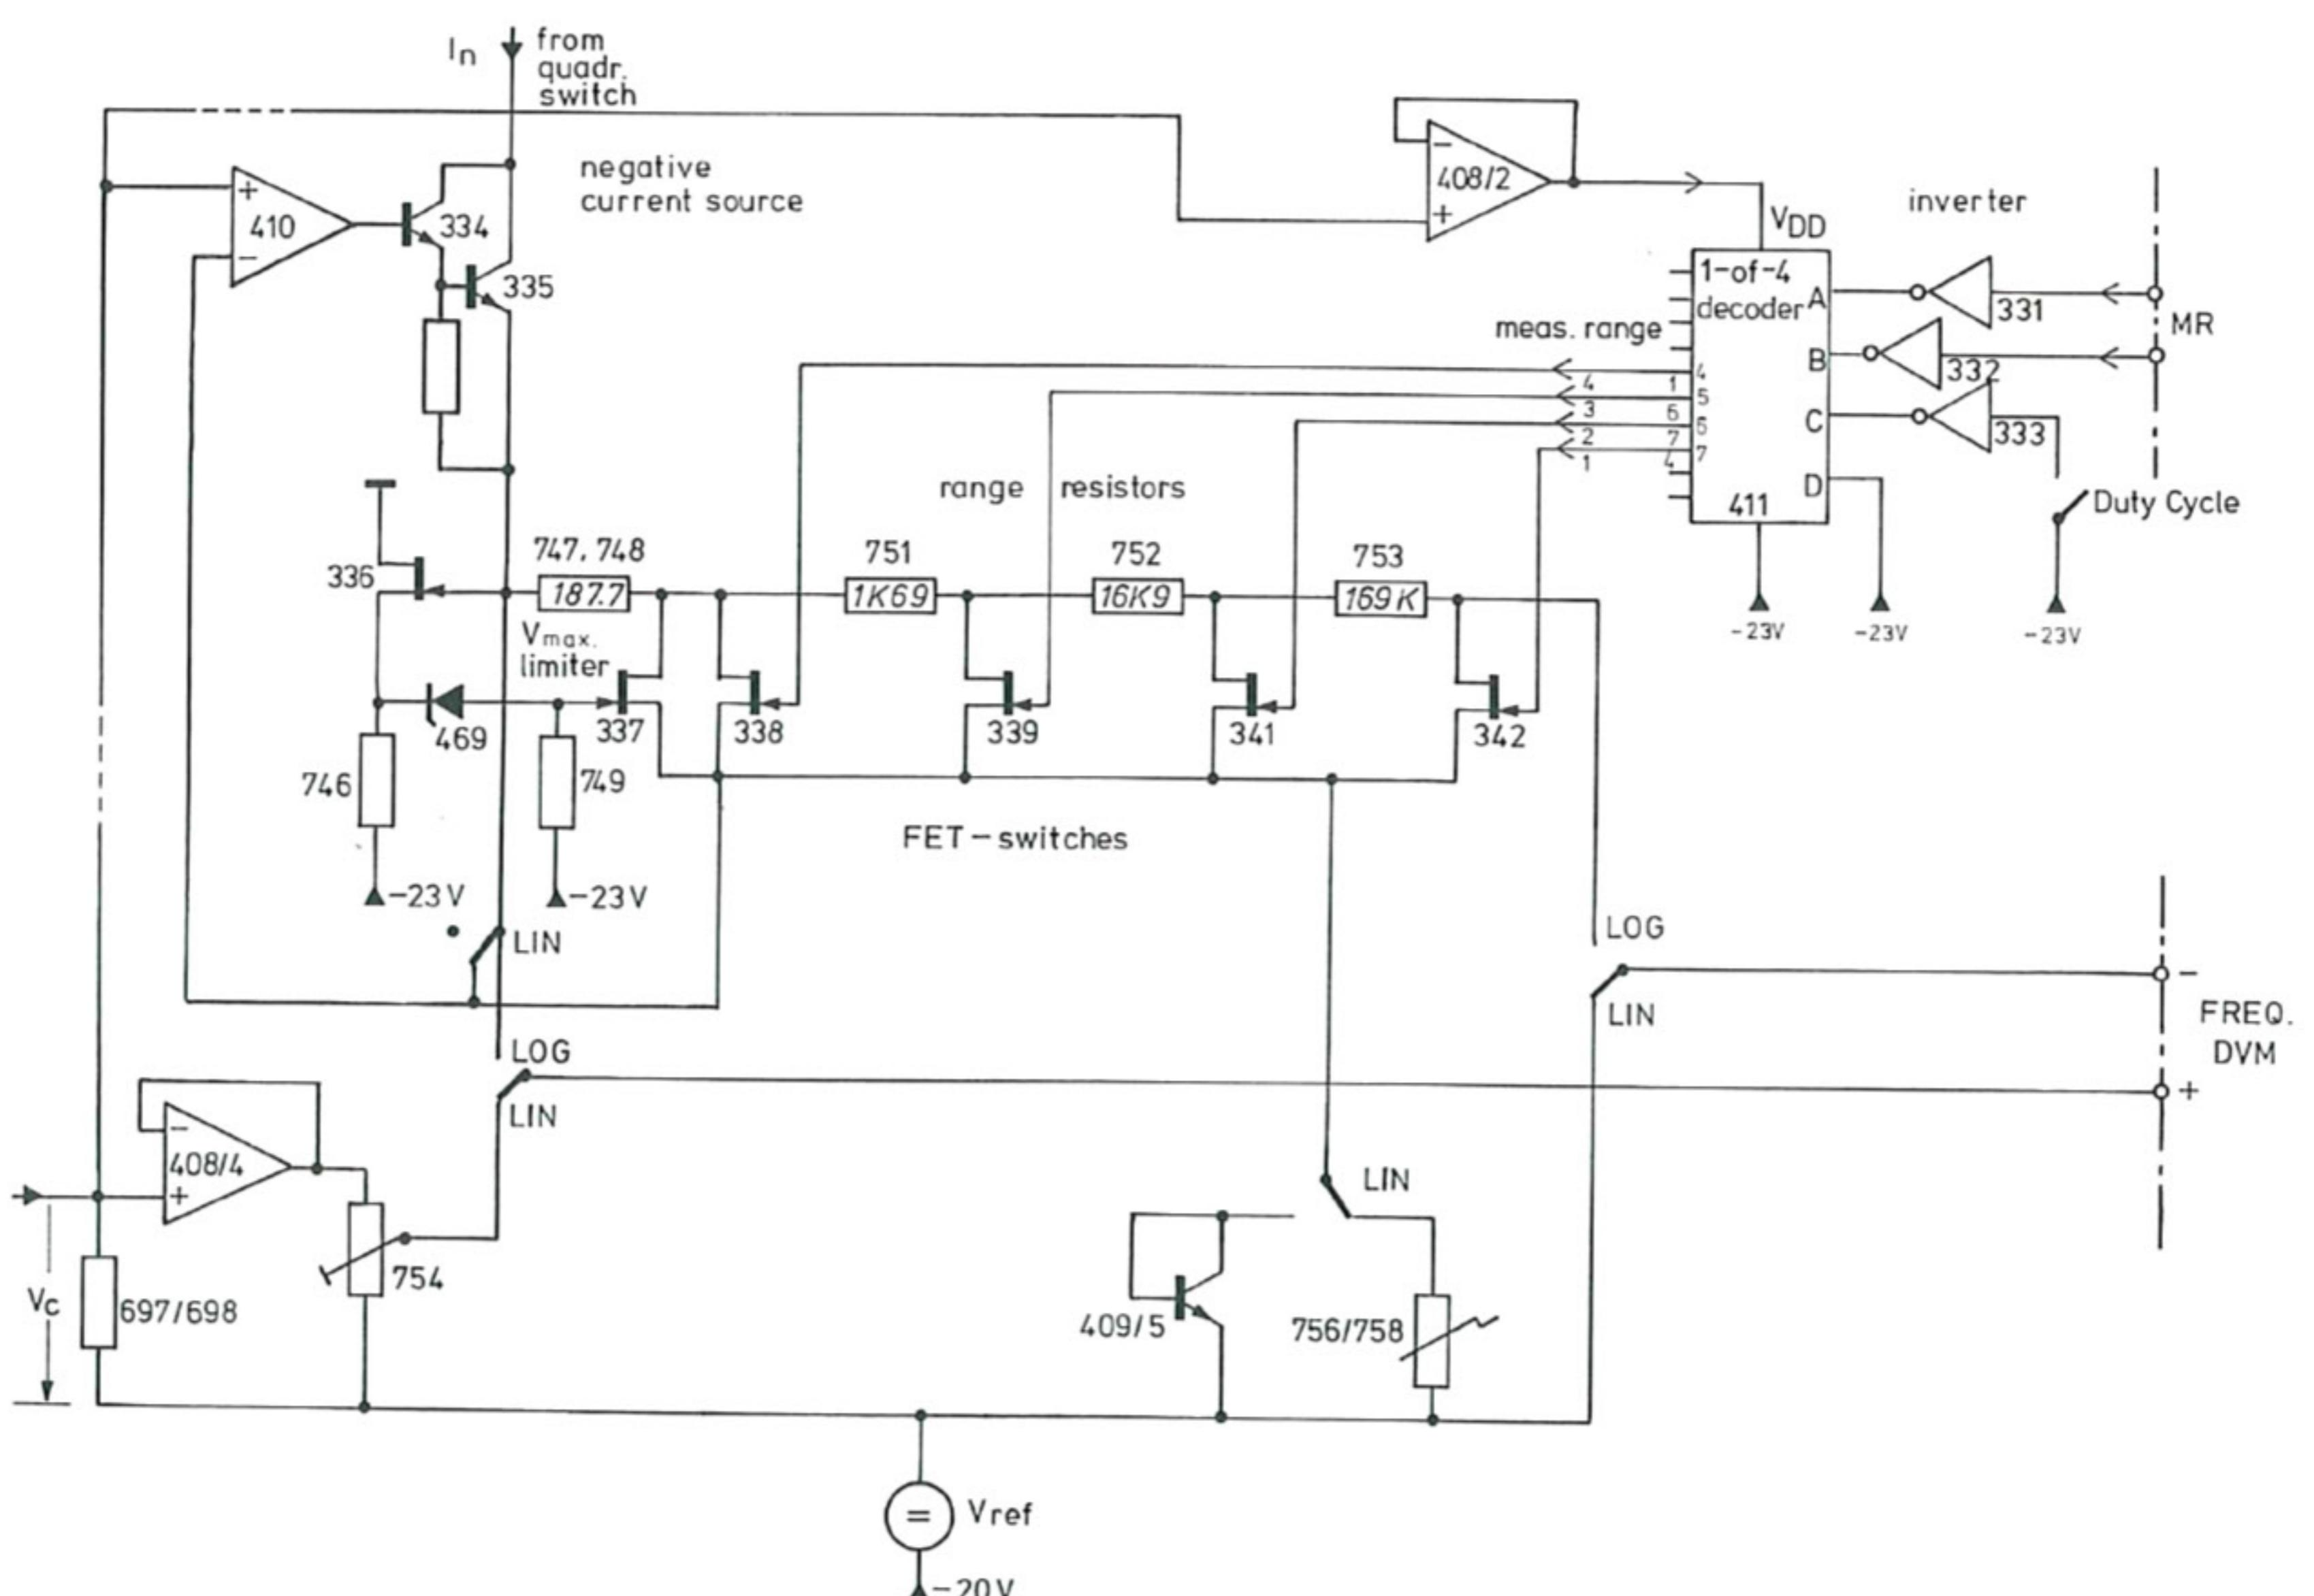

Fig. 4.1-6 Measuring control
In LOG mode current I_n is led to the range resistors 747, 748, 751, 752 and 753, see figs. 4.1-6 and 38. Only one at a time of the FET-switches 338-342 conducts permitting the current to flow either through 1R, 10R, 100R or 1000R with $R = 187.7 \Omega$. These resistors are switched by the measuring range (MR) control lines from the DVM 405 via OR-gate 408, inverting transistors 331, 332 and 1-of-4 decoder 411.